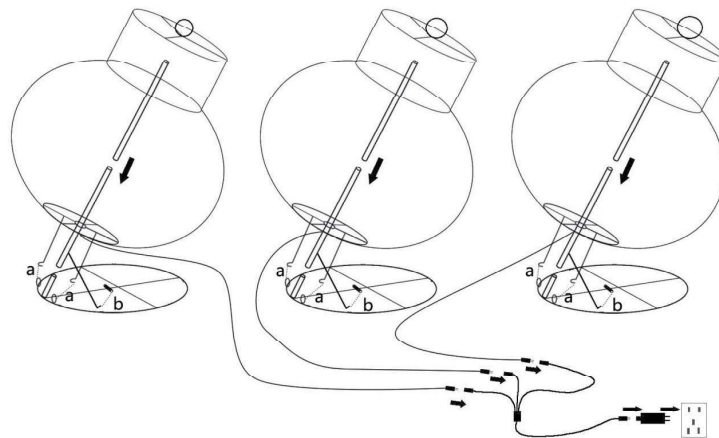

Fig.1
2. Insert the lower pole(C) into the base and follow with the upper pole(B) to have one standing long pole.
3. Slide the ornament(A) over the pole. Put the top of the ornament into the pole.
b. Insert the tip of the rod into the corresponding metal cylinder of the base(D). (see Fig.1)